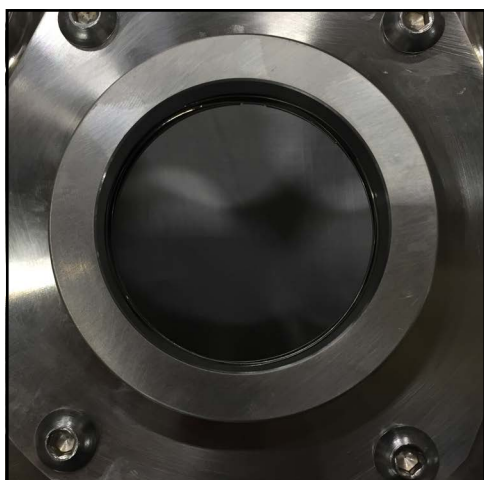

Figure 137 - Seal housing installed
11. Figure 137 shows the seal housing installed.